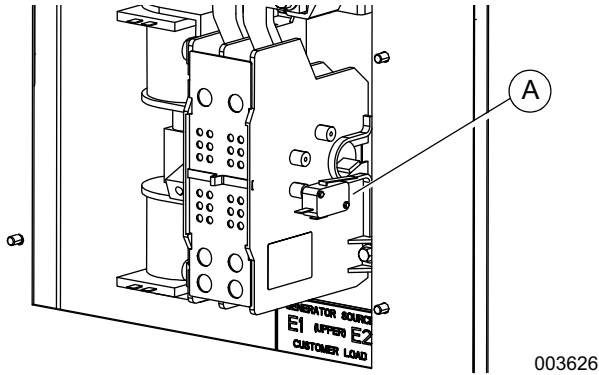

Figure 3-3. Auxiliary Contact
See **Figure 3-3**. If desired, there is one normally-closed Auxiliary Contact (A) on the transfer switch to operate customer accessories, remote advisory lights, or remote annunciator devices. A suitable power source must be connected to the common terminal. If needed, an extra auxiliary contact can be added.